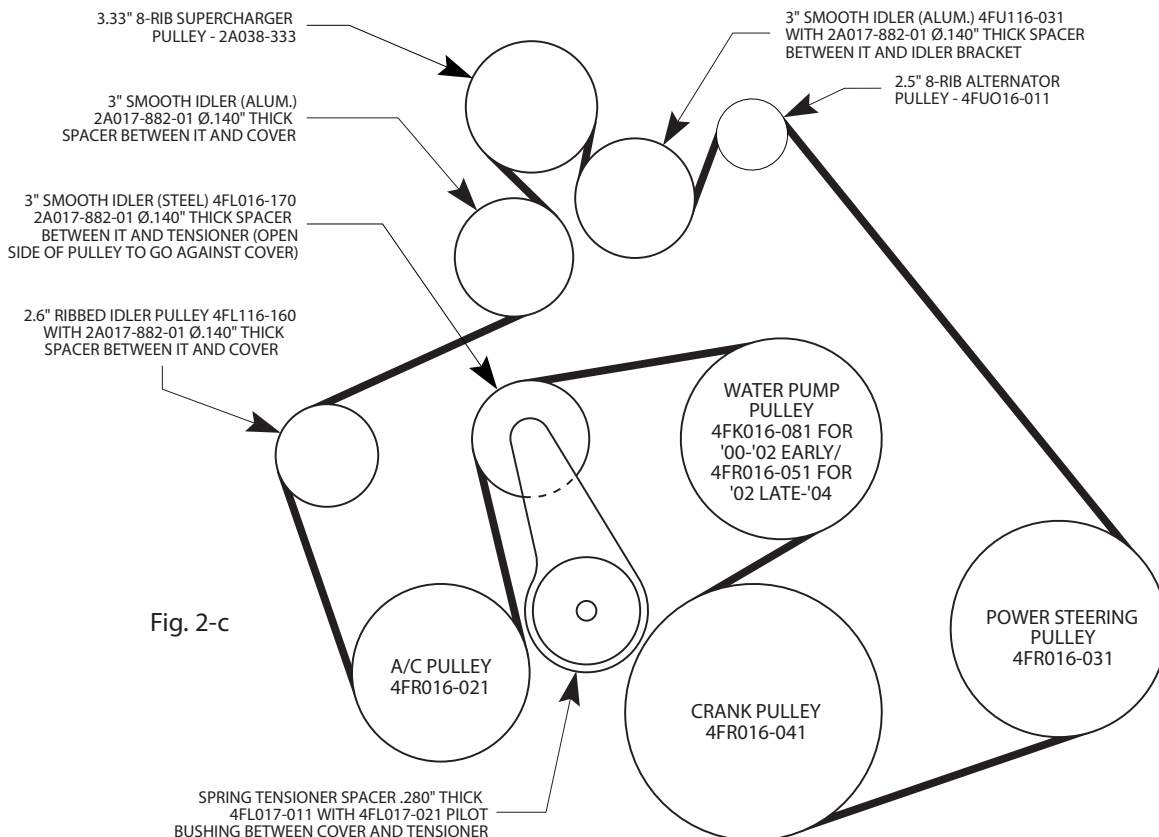

Fig. 2-c
- A. Loosely install the 8-rib drive belt provided using Fig. 2-c for belt route reference.